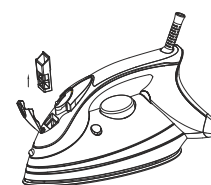

Fig.3
- Open inlet cover and take Anti-calc box upwards out of the filling hole (Fig.3).